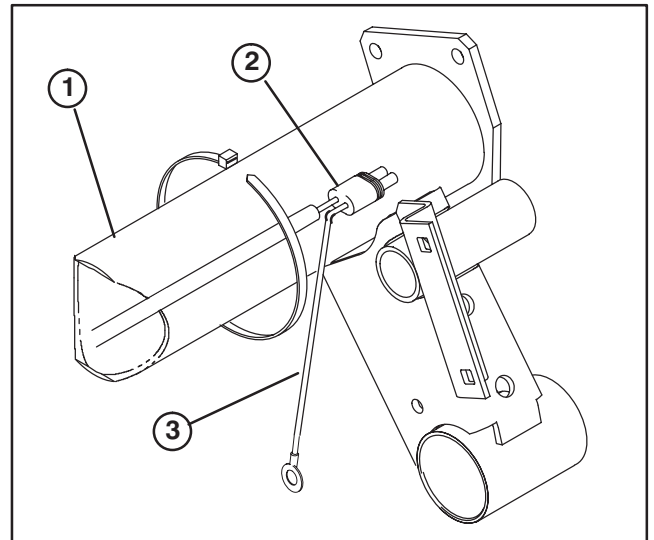

Figure 5
21. Route wire harness through opening in vehicle floor board and to rear of vehicle following the accelerator cable. Secure wire harness to accelerator cable with (3) cable ties.
22. Secure wire harness to jackshaft support tube with a cable tie (Fig. 5).